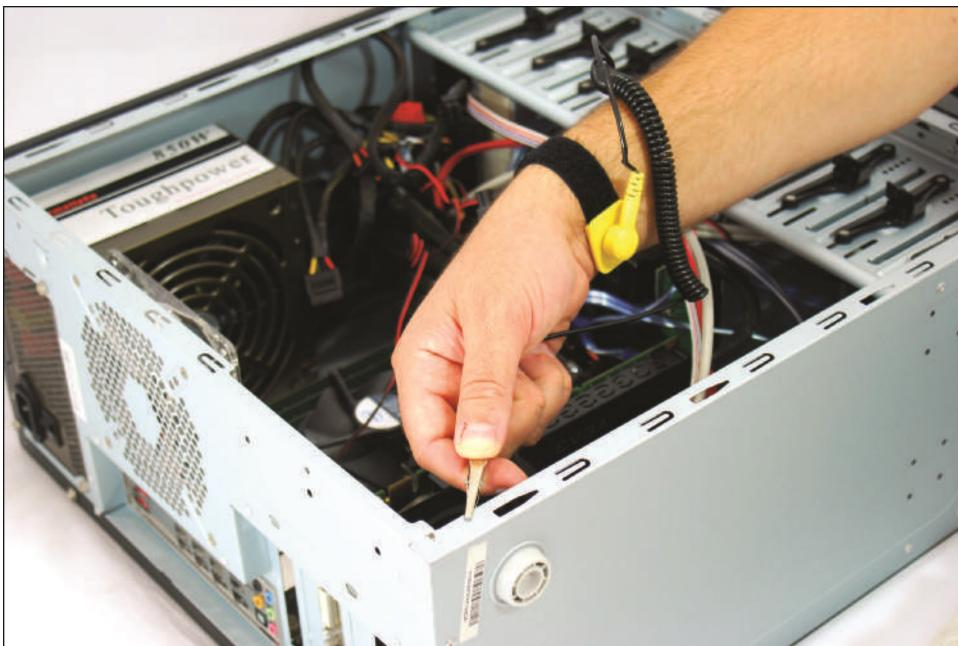

Figure 2-8 Attach the alligator clip of your ground bracelet to the side of the computer case
6. **Clip your ESD strap to the side of the computer case.** To dissipate any charge between you and the computer, put on your ESD strap if you have not already done so. Then clip the alligator clip on the strap cable to the side of the computer case (see Figure 2-8).